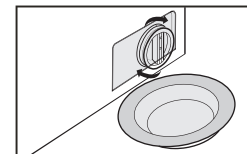

Fig 28
3. Reinstall each part after sundries matters are removed (Fig28).